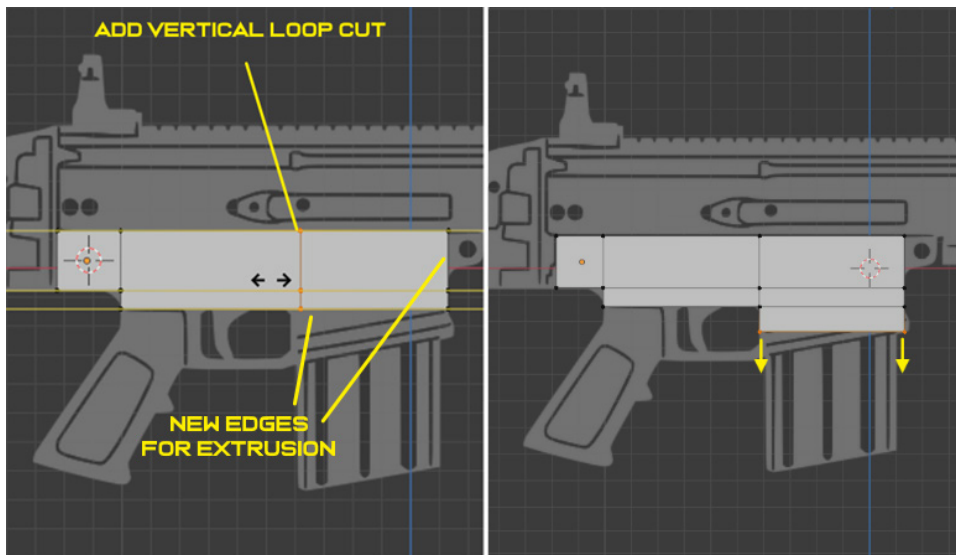

Figure 2.10 – Loop cut (left) and extruding edges (right)
1. Press *Ctrl + R* to create a loop cut and hover the mouse cursor over the mesh, as shown in *Figure 2.10* (left). In our case, a vertical loop cut separates the two side faces into four. We can use a face from the bottom to extrude the magazine holder down, as shown in *Figure 2.10* (right).